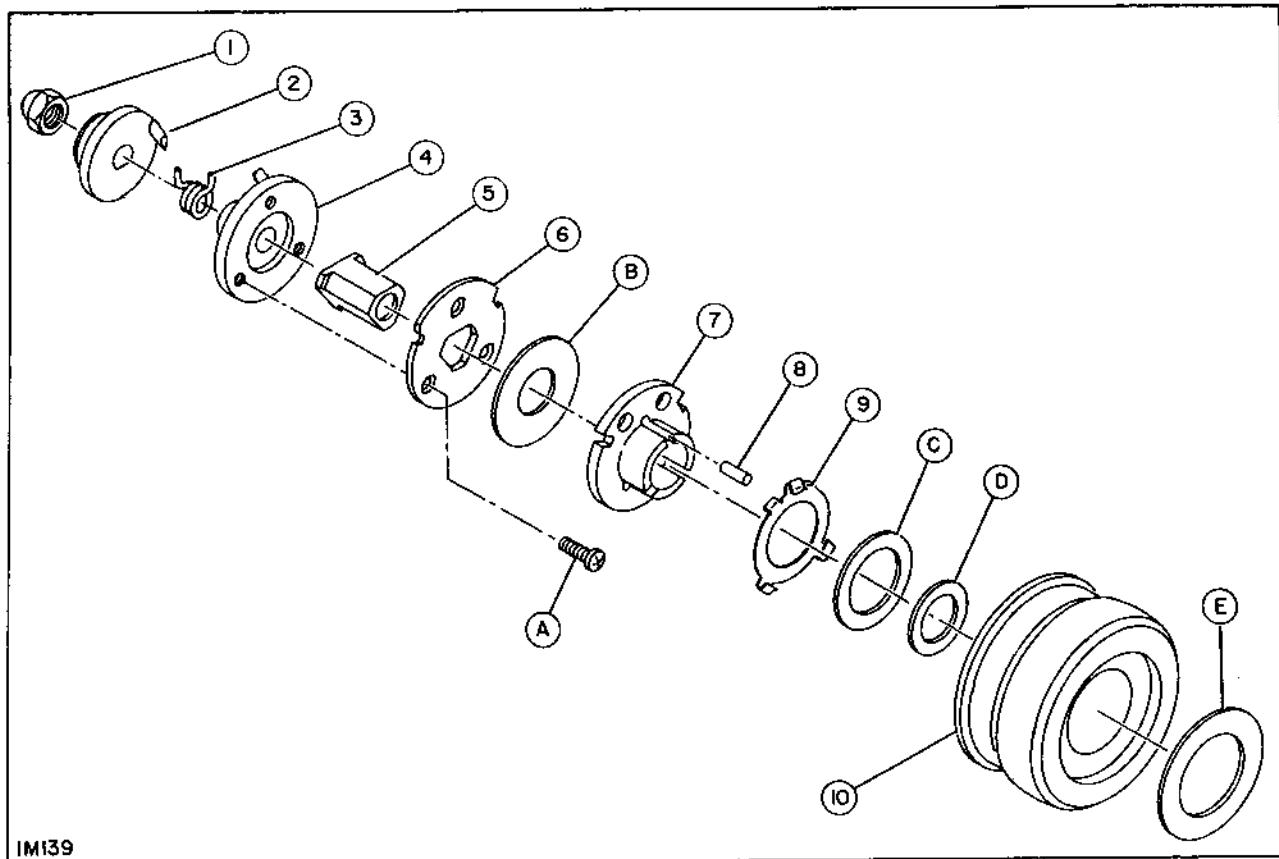

Figure 49
2. Remove locknut (1) (figure 49).
3. Remove drive bushing (2), drive spring (3), and drive plate assembly (4), (5), and (6).
4. To disassemble drive plate assembly, remove screws (A).
5. Remove thrust washers (B), (C), (D), and (E) roller separator (7) and inner race (5).
6. To remove pulley assembly (10), loosen (4) mounting screws in hanger (see hanger assembly).